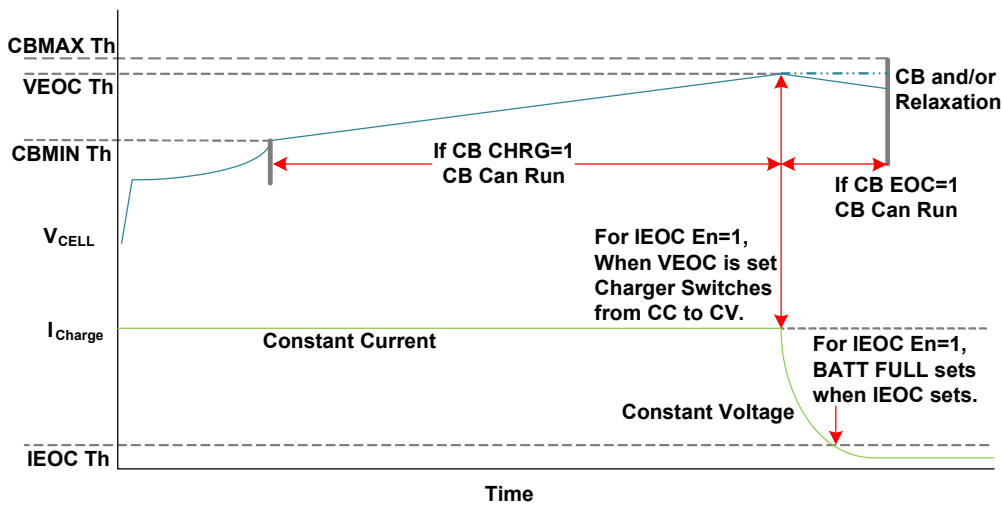

Figure 106. A Typical Charge Characteristic Curve
The RAA489206 has features that support both Constant Current (CC) and Constant Voltage (CV) charging. A typical charging profile for a battery cell is depicted in Figure 106. Cell balancing can occur only when the cell voltage is between the CBMIN and CBMAX limits, which are independent of CB EOC and CB CHR G bit settings.